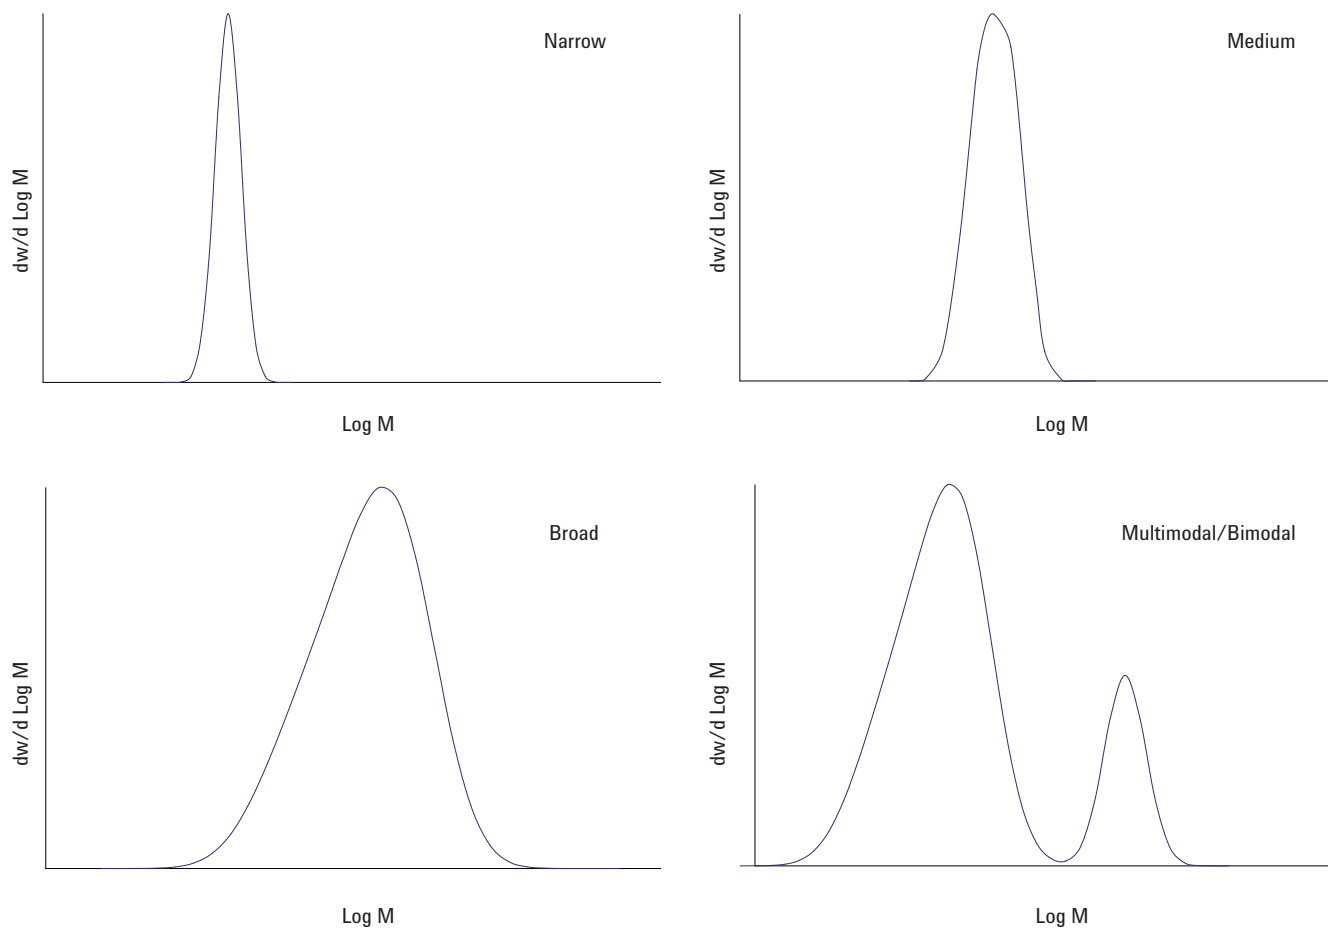

Figure 5. Different polymer molecular weight distributions
- Sometimes synthetic polymers have multimodal distributions and this is where it gets interesting. One example is shown in Figure 5. Importantly, the values of the molecular weight averages do not reveal in themselves that the sample is multimodal – you have to look at the molecular weight distribution to see that.
Figure 5 shows representative molecular weight distributions for polymers of differing polydispersities. A narrow distribution consists of a single, sharp peak, with an M_w/M_n of <1.2 . A medium distribution has a wider range in the size of polymer chains with an M_w/M_n of <2.0 , over which the distribution is